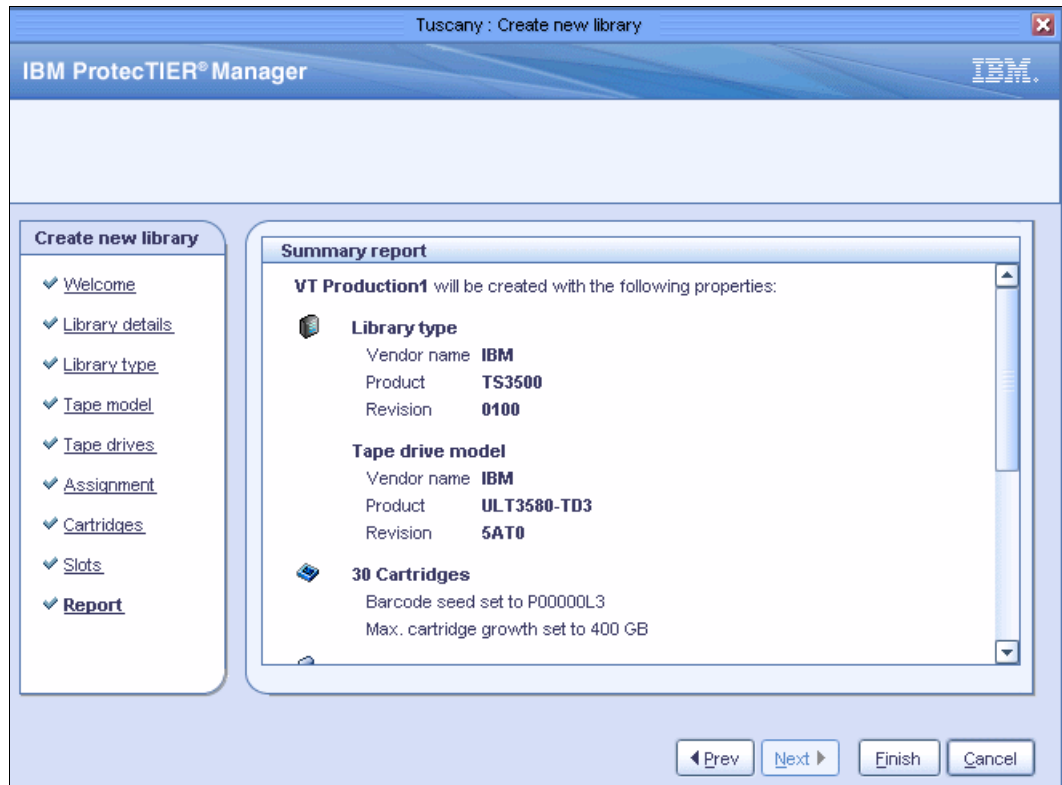

Figure 5-75 Summary report
11. The Create new library wizard closes and a Summary report window opens (Figure 5-75). Click **Finish**.